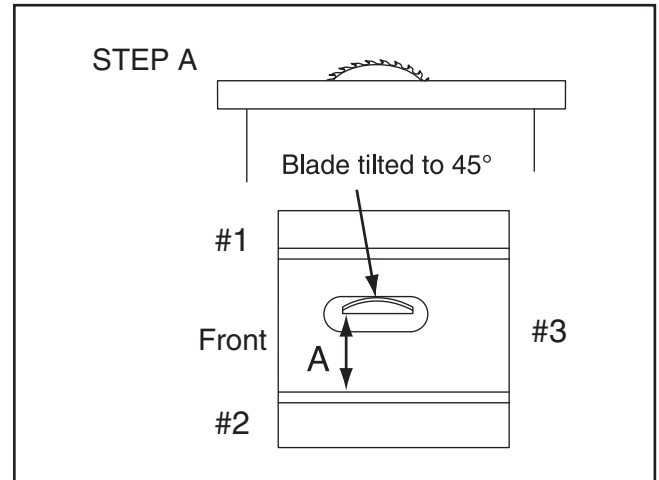

Figure 110. Shim procedure diagram A.
- Loosen (4) table mounting bolts from **Step 6**.
- Refer to **Figures 110–111** for shim placement. If distance A is shorter than B, shim(s) will need to be placed under corners #1 and #2. If distance of B is shorter than A, shim(s) will need to be placed under corner #3. Very thin shim stock works well.